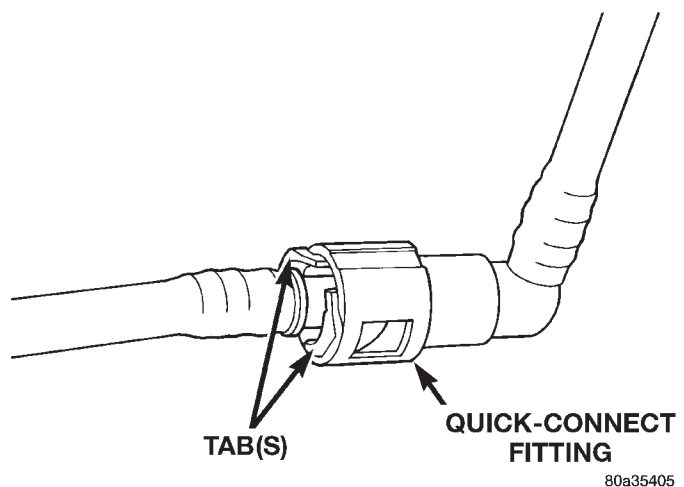

Fig. 17 Typical Two-Tab Type Quick-Connect Fitting
This type of fitting is equipped with tabs located on both sides of the fitting (Fig. 17). These tabs are supplied for disconnecting the quick-connect fitting from component being serviced.
(4) To disconnect quick-connect fitting, squeeze plastic retainer tabs (Fig. 17) against sides of quick-connect fitting with your fingers. Tool use is not required for removal and may damage plastic retainer. Pull fitting from fuel system component being serviced. The plastic retainer will remain on component being serviced after fitting is disconnected. The o-rings and spacer will remain in quick-connect fitting connector body.
(5) Inspect quick-connect fitting body and component for damage. Replace as necessary.